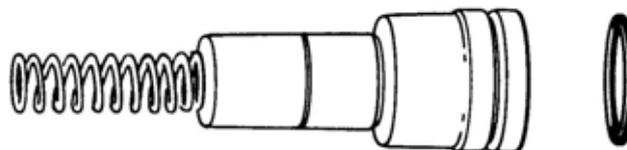

Figure 10 Piston and O-Ring
- e. Remove and discard the piston O-ring (Figure 10).